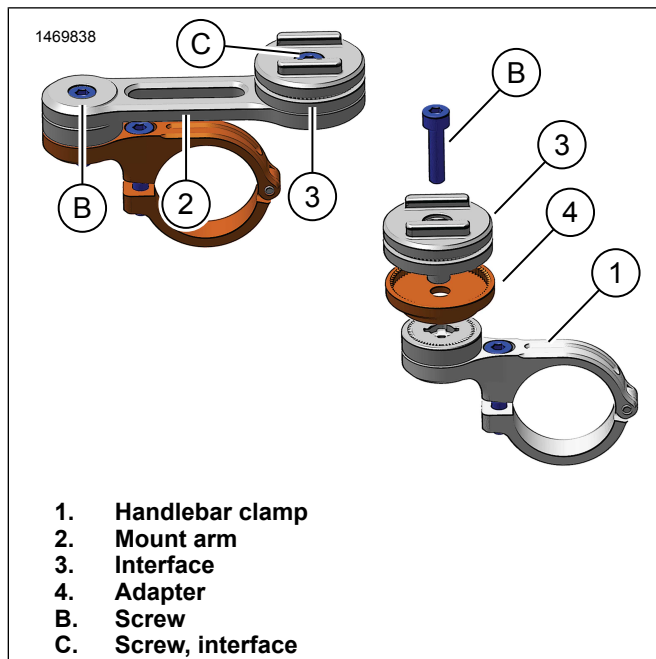

Figure 4. Handlebar Mount Options
8. Figure 4 Alternate handlebar mount installation.
- a. Remove screw (B) and screw (C).
- b. Remove mount arm (2) from mounting clamp (1).
- c. Remove phone interface (3) from mount arm (2).
- d. Install adapter (3), phone interface (3) and screw (B). Tighten.